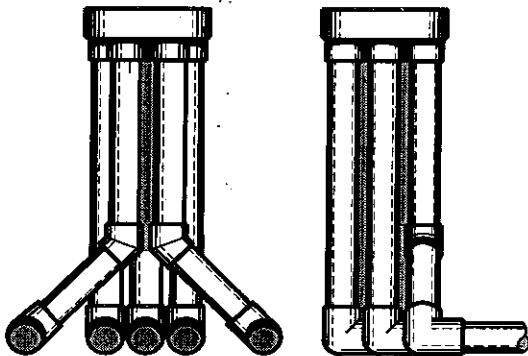

Figure 10-1
5. See Figure 10-1 for the plumbing configuration of the 5-Port Valve so that when finished, the returns from the valve to the pool all lie flat in the trench in their proper firing sequence.
Figure 10-1 shows the finished configuration of In the case of a small pool, it may not be a 5-port valve allowing all return lines to lie necessary to use all five ports of a 5-port flat in the trench. valve.